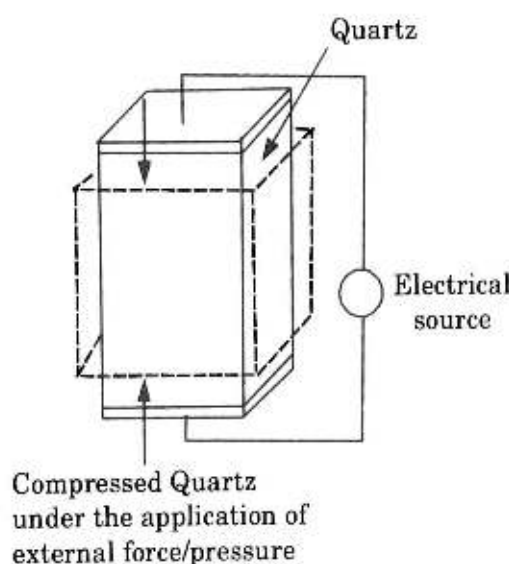

Fig. 5.13.1. Principle of working of piezoelectric sensor.
6. It contains piezoelectric ionic crystal materials such as Quartz as shown in Fig. 5.13.1. On application of force or pressure these materials get stretched or compressed.